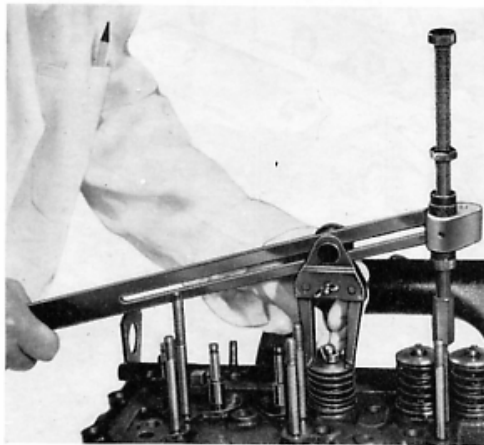

Fig. G.4.
1. Remove collets by compressing valve springs. (Fig. G.4).